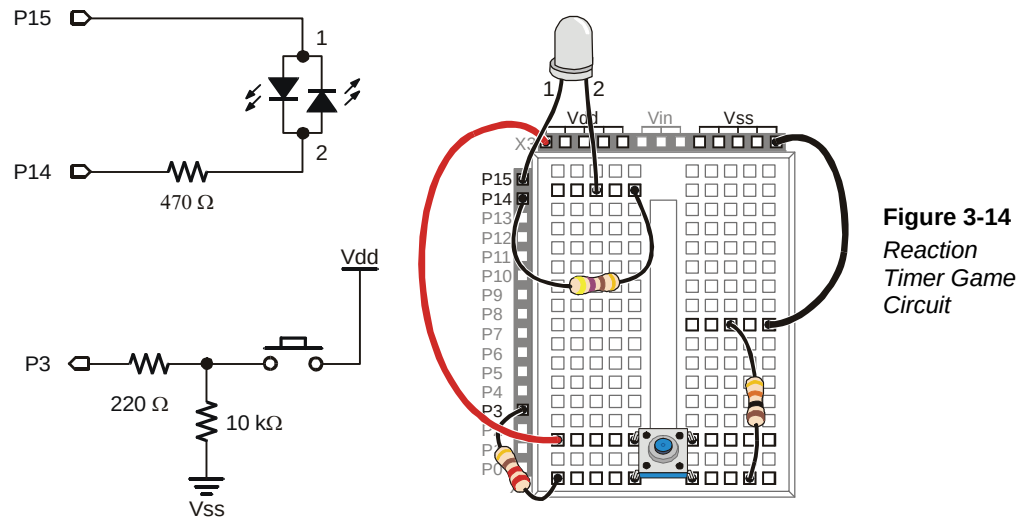

Figure 3-14
Figure 3-14 shows a schematic and wiring diagram for a circuit that can be used with the BASIC Stamp to make a reaction timer game.
- ✓ Build the circuit shown in Figure 3-14 on page 80.